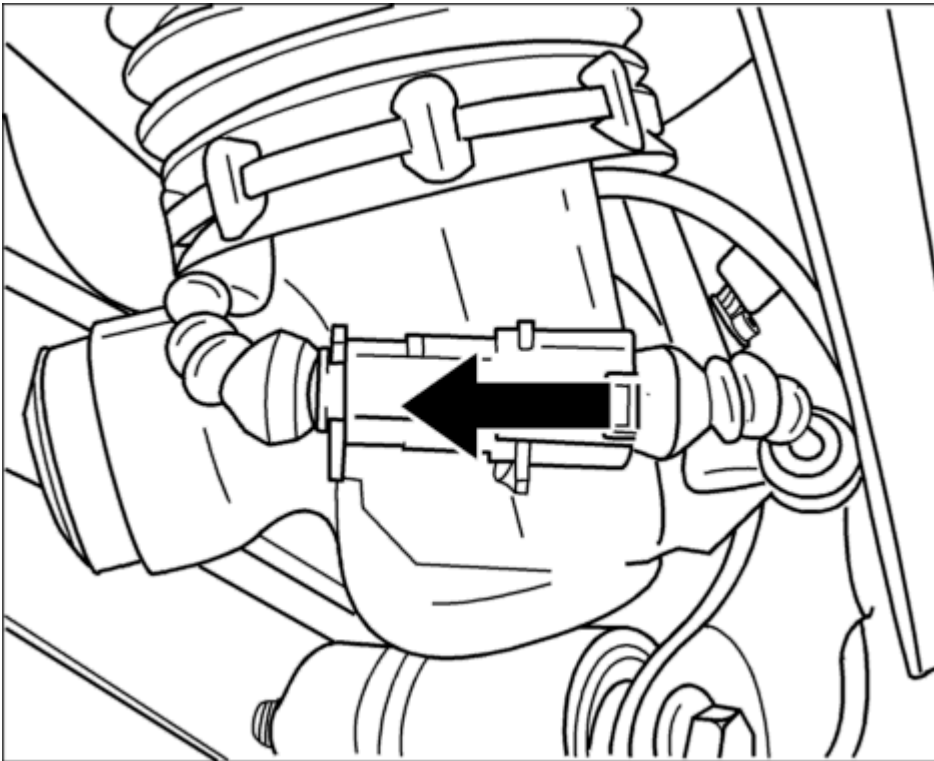

Fig. 76: Connecting CDC sensor plug connector
5. Connect the CDC sensor plug connection to the lower part of the spring strut **-(arrow)-** . Insert cable into the holders. See **Fig. 76**.